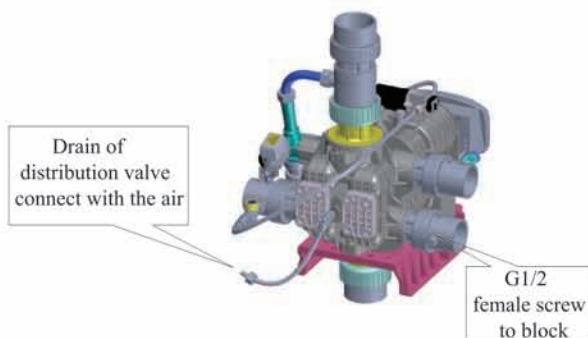

Figure 1-6
- The drain pipeline shouldn't be too long, and the drain shouldn't be higher than the valve. For softener, drain pipeline should not be longer than 5m; for filter, it should not be longer than 2m. If the drain pipeline is longer or higher than the requirement, please disassemble the connector between distribution valve and drain and let the drain of distribution valve connect with the air. Use G1/2 female screw to block the G1/2 male of drain. Please refer the Figure 1-6.